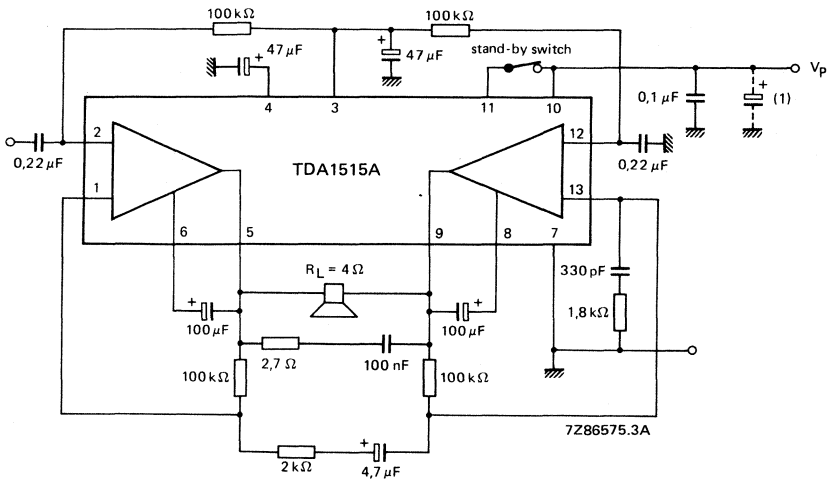

Fig. 3 Test/application circuit bridge tied load (BTL).
4. The input impedance in the test circuit (Fig. 3) is typ. $100 \text{ k}\Omega$.